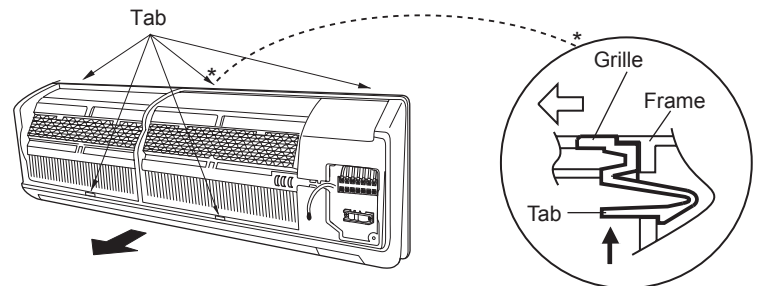

Fig. 11a
- (5) Pull the lower part of the grille toward you to remove. (Fig. 11a)
- (6) Use a standard screwdriver to push on the tabs to remove the grille.